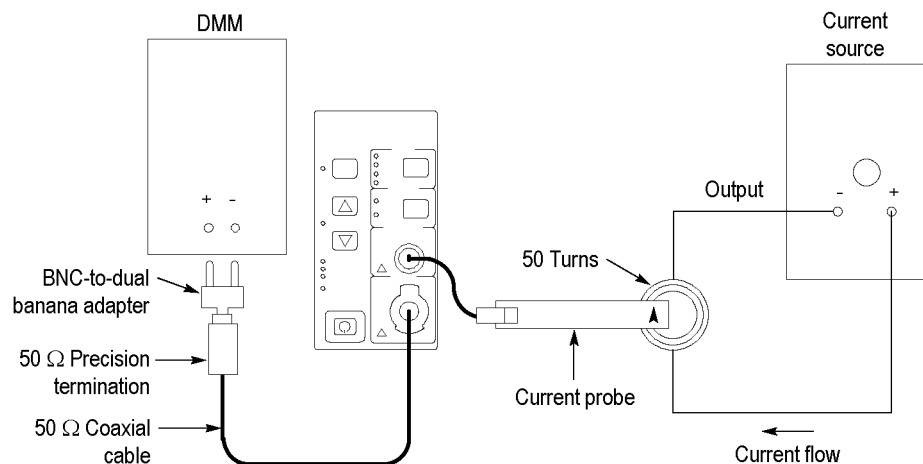

Figure 10: DC gain accuracy test setup for the TCP303 and TCP404XL
3. Clamp the current probe around the 50 turn current loop, as shown. (See Figure 10 on page 33.) Maintain proper polarity; the arrow-shaped indicator on the probe points away from the (+) terminal of the current source.